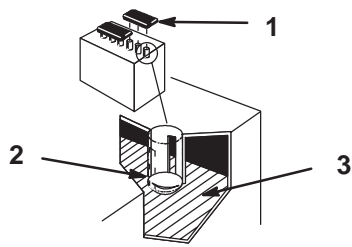

Figure 35
2. With the engine off, open the covers to see into the cells. The electrolyte must be up to the lower part of the tube (Fig. 35). Do not allow the electrolyte to get below the plates. (Fig. 35).
2. Lift off the filler caps (Fig. 35).
3. Slowly pour distilled water into each battery cell until the level is up to the lower part of the tube (Fig. 35).